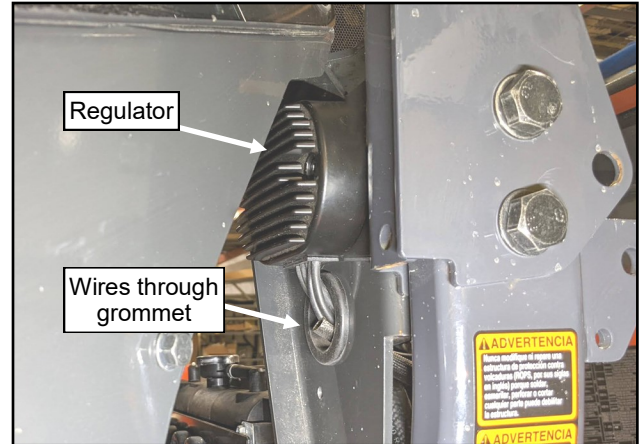

Fig. 6.4a (Secure Regulator to ROPS Bracket)
- 6.4 See figs. 6.4a and 6.4b. Pass the regulator wiring through the grommet and install the regulator to the front of the left ROPS bracket. With one of the regulator mounting bolts and nuts, secure the A/C hose with a p-clamp as shown in figure 6.4b. Twist clamp and adjust hose position so that hose does not contact sharp edges of ROPS bracket.